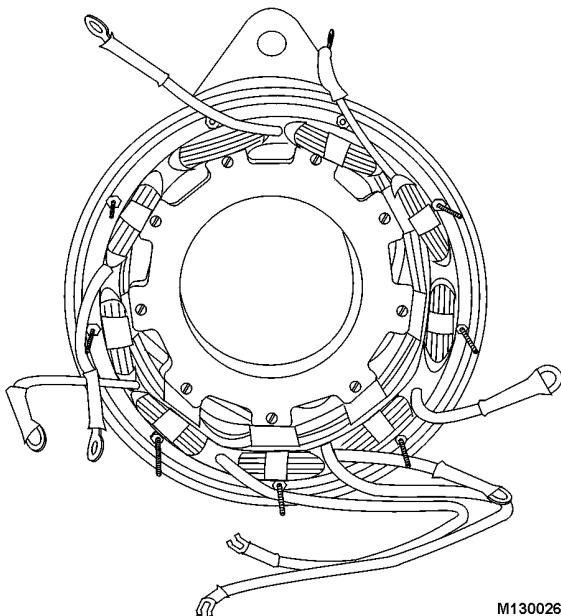

FIGURE 10-26.
6. Using eighteen screws coated with loctite, fasten field coil bobbin ears to stator tabs (Figure 10-26). Tighten screws to **8-10 lb-in. (0.9- 1.1 Nm)** torque.